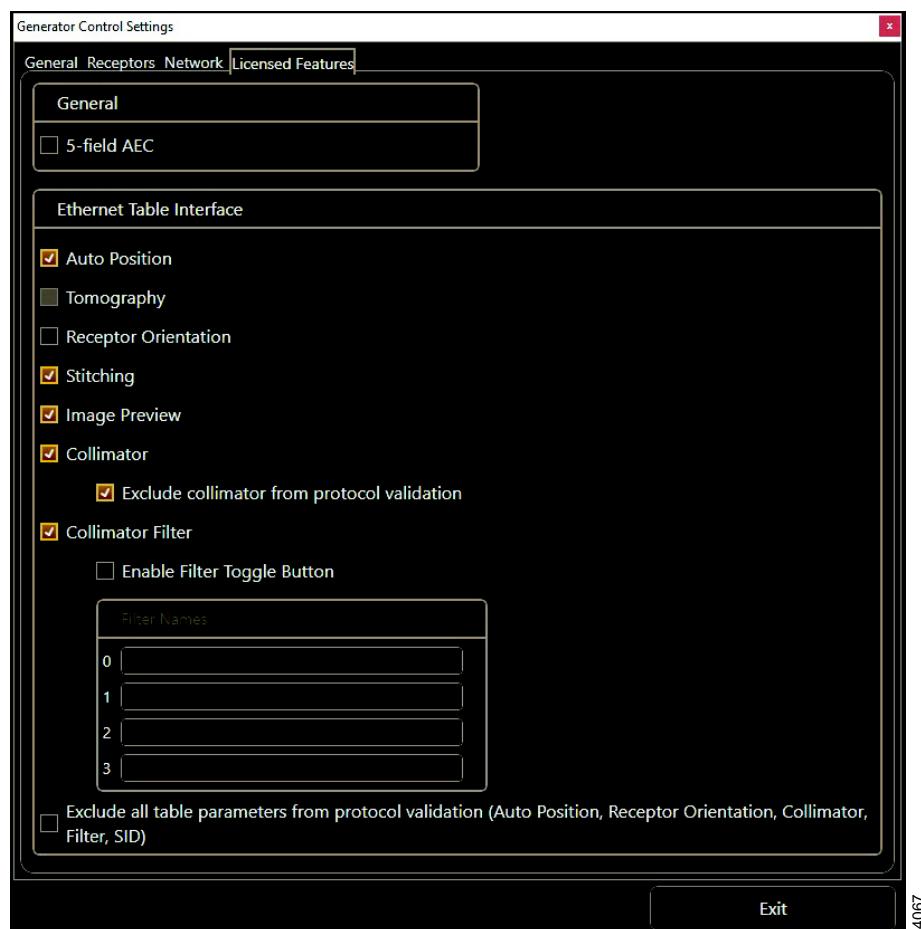

Fig. 5-10 Generator Control Settings, tab Licensed Features
9. The licensed features settings shall be configured according to **Fig. 5-10**. Depending on the license installed in the system, some features may not be available.